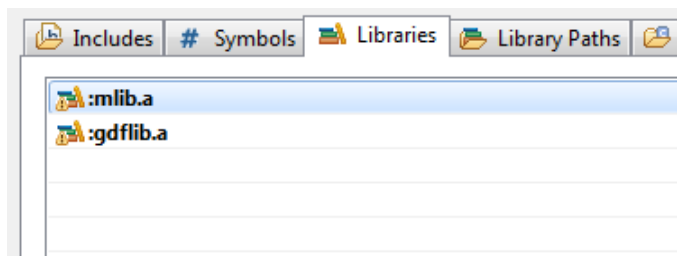

Figure 1-22. Libraries
9. After adding the library paths, add the library files. Click the Libraries tab. See Figure 1-22.
14. Click OK, and you will see the libraries added in the list. See Figure 1-22.